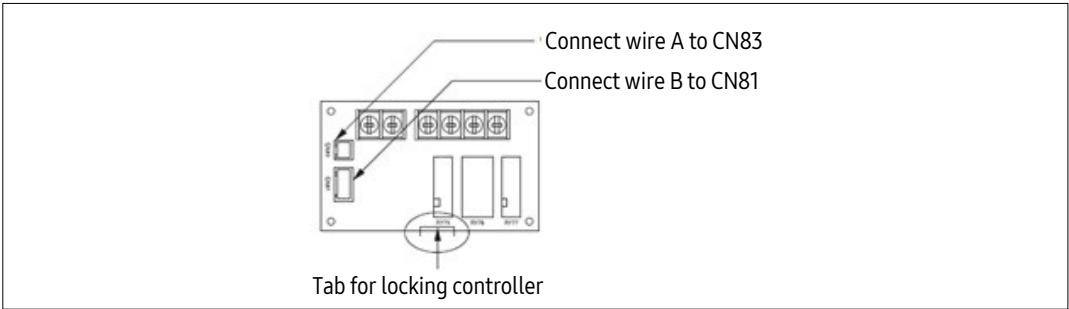

Figure 2. Wiring the module
- 2. Align the circuit board with the case and lock it into place using the locking tab (see Figure 2).
- 2. Connect the 2-pin wiring harness to the interface module at CN83 (Figure 2) and to the indoor unit at CN83.
- 3. Connect the 4-pin wiring harness to the interface module at CN81(Figure 2) and to the indoor unit at CN81.